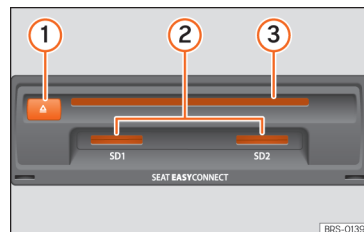

Fig. 175 Slots for data storage devices in the glove compartment.
- Insert a CD into the slot »» **Fig. 175** ③ with the printed side facing upwards, until the equipment inserts it automatically.
Insert the compatible memory card, with the cut corner first and the contacts facing down, into slot **» Fig. 175 ②** or **» Fig. 139 ⑨**, until it clicks into place.